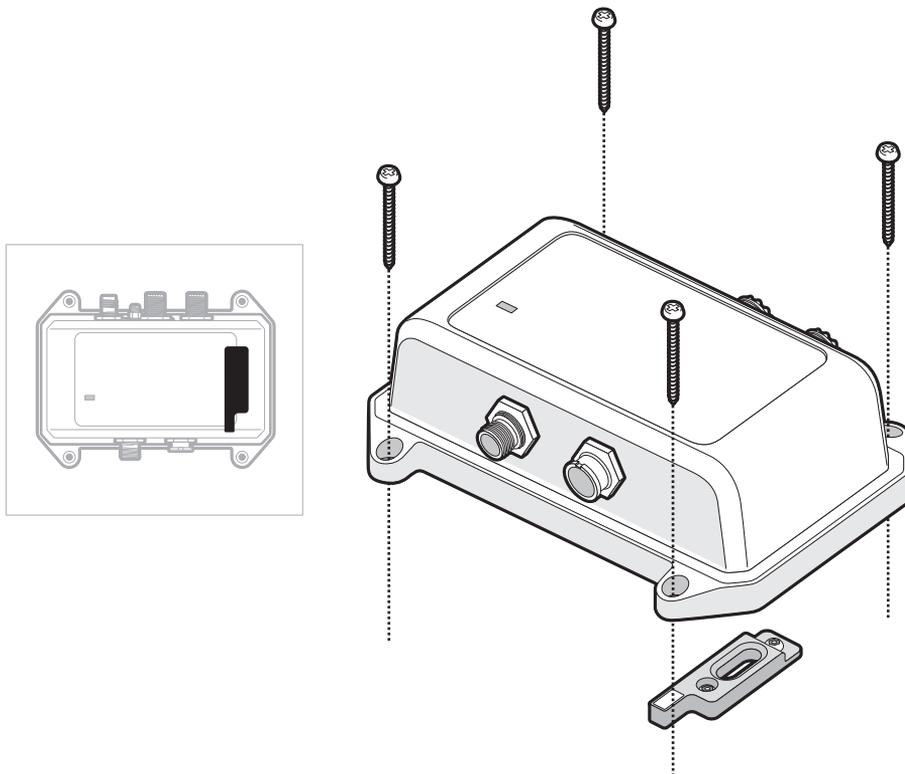

Figure 7 AIS transceiver mounting
- The product is supplied with four self tapping screws for attachment of the AIS transceiver to a suitable surface. Please refer to Figure 7 for guidance.